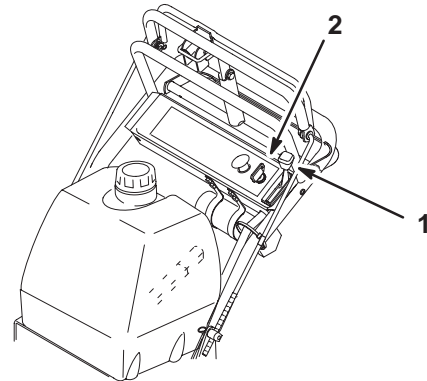

Figure 17
1. Move the throttle lever to **slow** (Fig. 17).
3. Turn the ignition key to **off** (Fig. 17).